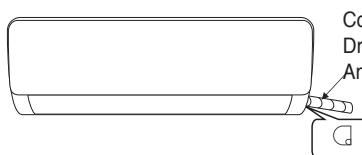
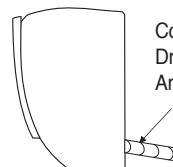

Fig.1
Fig.2
- Depending on the position of the unit, the piping may be routed sideway from the left or the right (Fig 1), or vertically from the back(Fig 2) (depending on the pipe length of the indoor unit). In the case of sideway routing, cut off the outlet cutting stock of the opposite side.